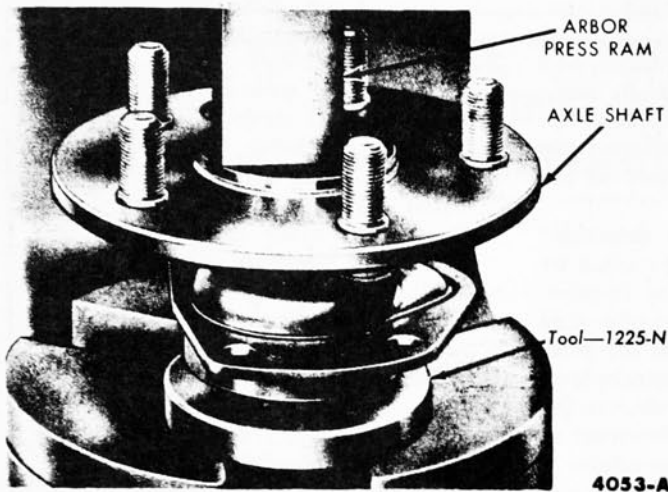

FIG. 4—Rear Wheel Bearing Installation
7. With the tool shown in Fig. 4, press a new rear wheel bearing on the axle shaft. **The bearing should seat firmly against the shoulder on the shaft.**